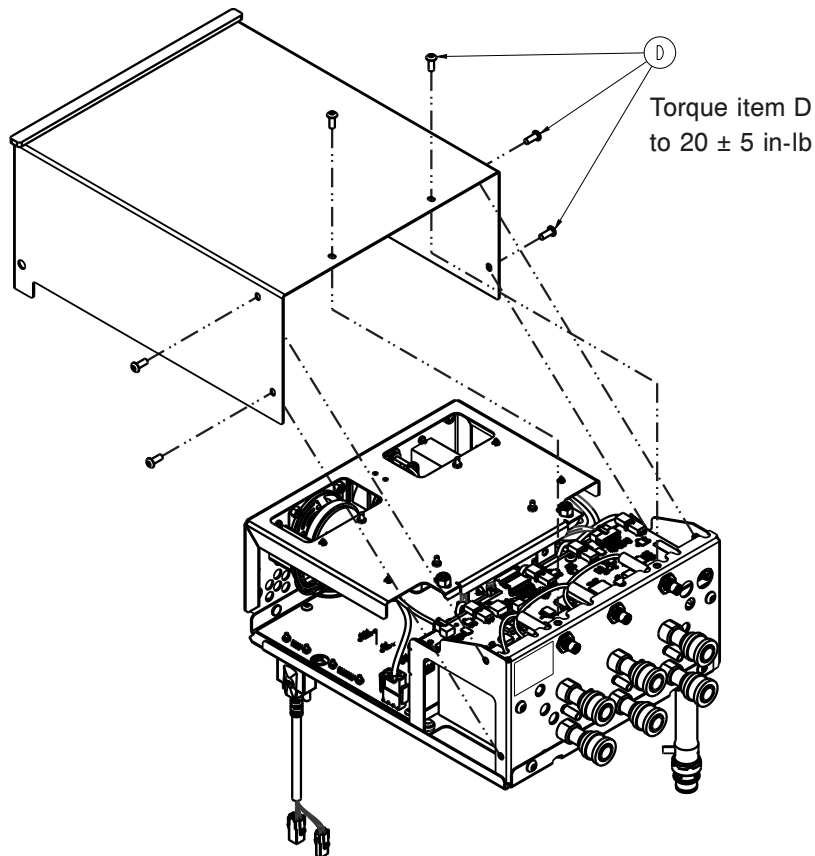

Figure 33 – Control box cover
5. Using a T25 Torx driver, remove the six screws (D) that from the control box cover (Figure 33). Save the screws.